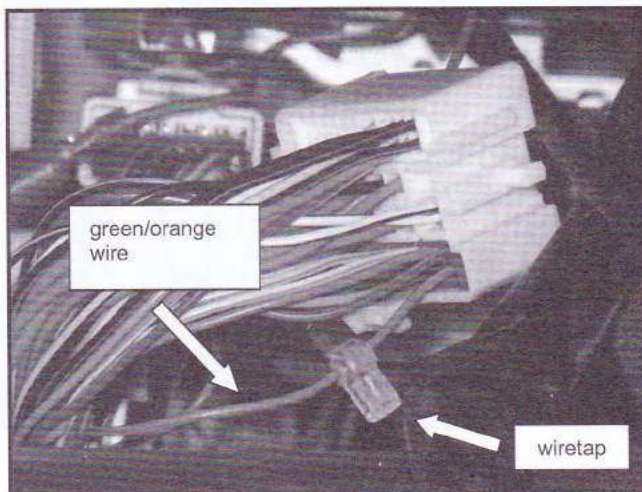

figure 3
5. Locate the Green/Orange wire from the large 54-pin white connector positioned directly under the vehicles RKE module. Attach the supplied purple wiretap as shown in figure 3.